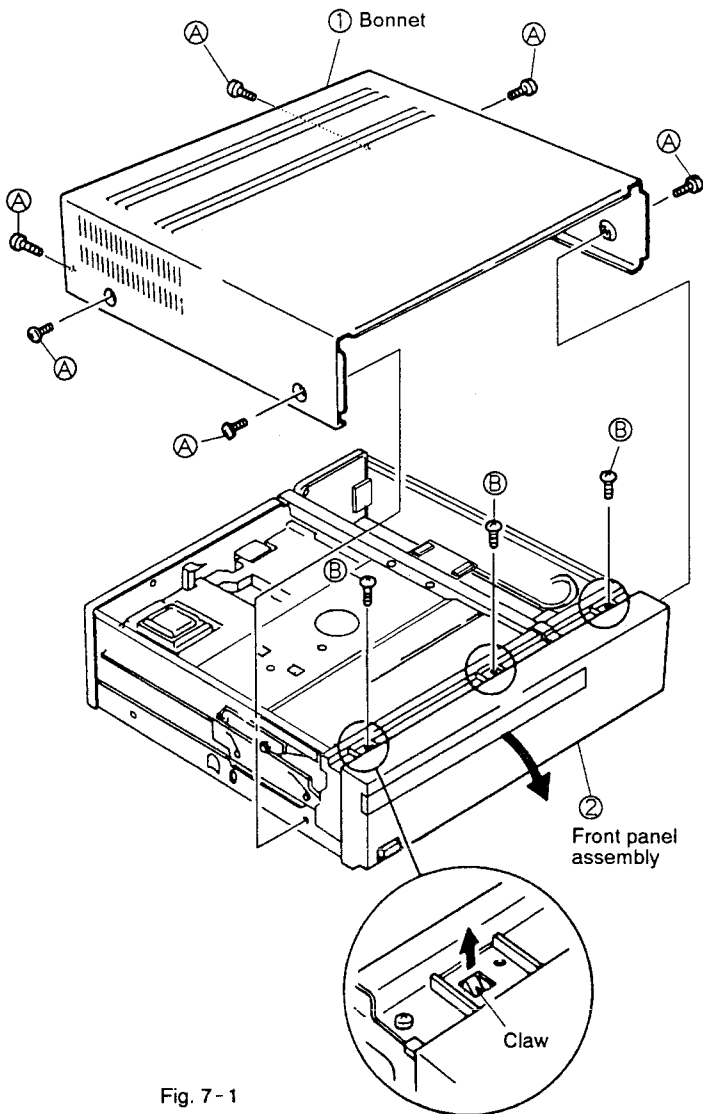

Fig. 7-1
7.1 REMOVING THE BONNET AND FRONT PANEL (Fig. 7-1, 2)
- ① Remove six screws (A) to remove the bonnet.
- ② To remove the front panel assembly, remove three screws (B) and lift the claws as shown in the figure and lower the front panel toward the front.
- ② When the power cannot be turned ON, remove the front panel (Fig. 7-1) and turn the gear pulley shown in Fig. 7-3 counterclockwise, and the tray will slide out toward the front.